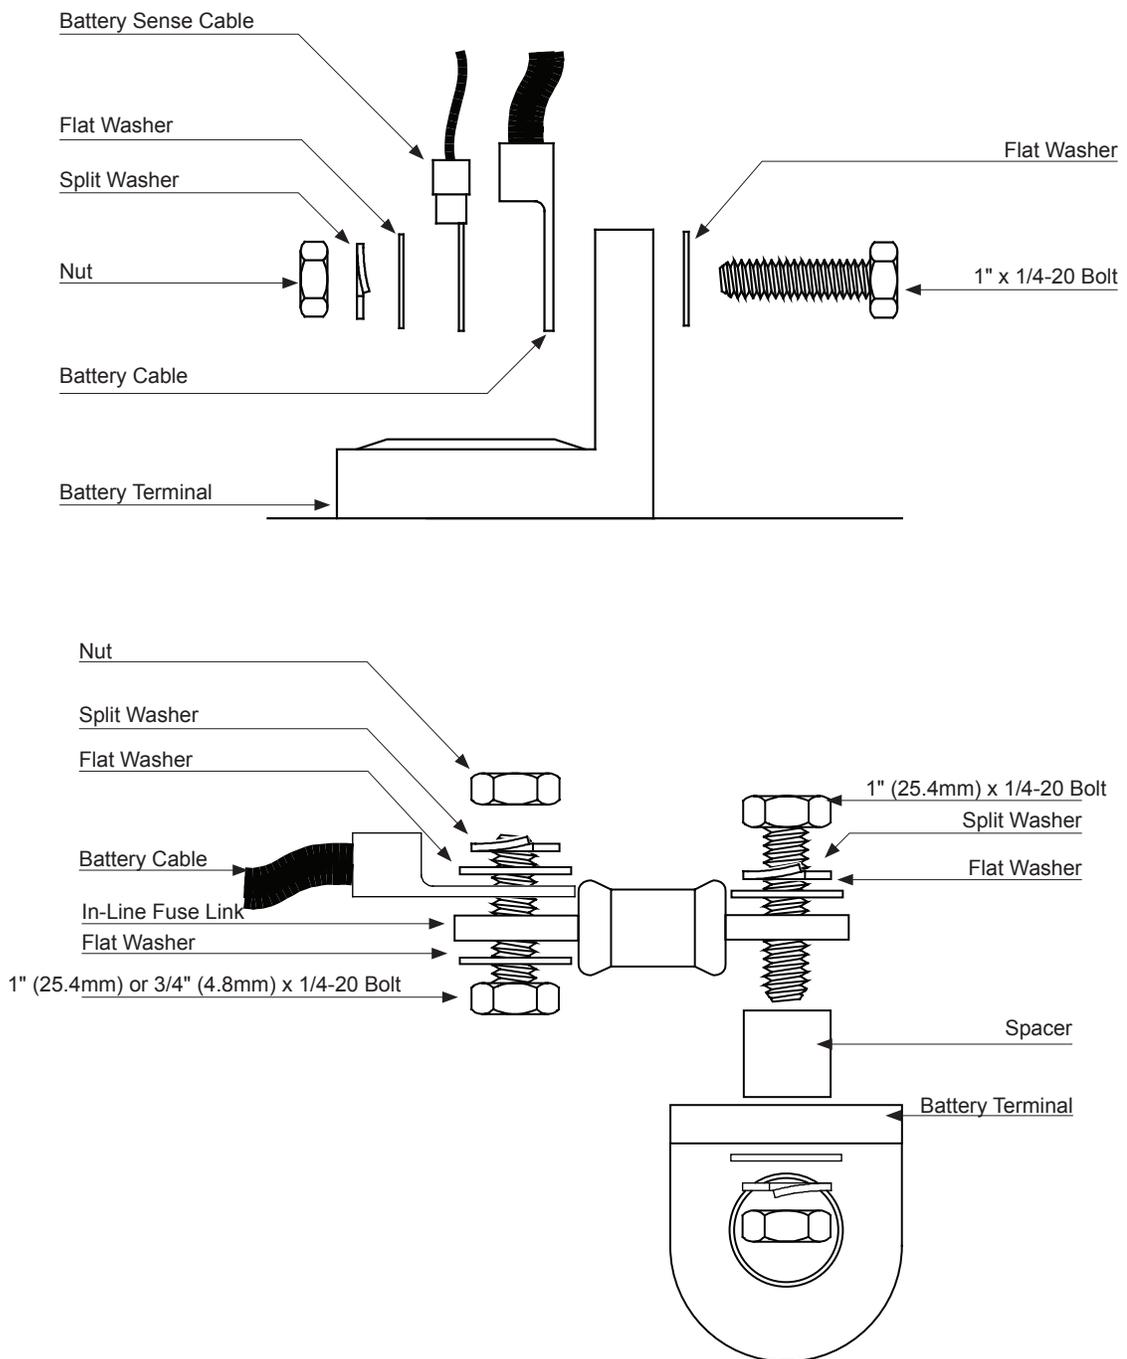

Fig. 2-26, Flag Battery Terminal Connections
1. Place the batteries on the enclosure's battery slide tray or battery shelf. The correct arrangement of the batteries on the tray or shelves varies between enclosure models. See the Figs. 2-26 through 2-31 for the correct battery arrangement for each model. Leave a minimum of one inch of ventilation space between the batteries.